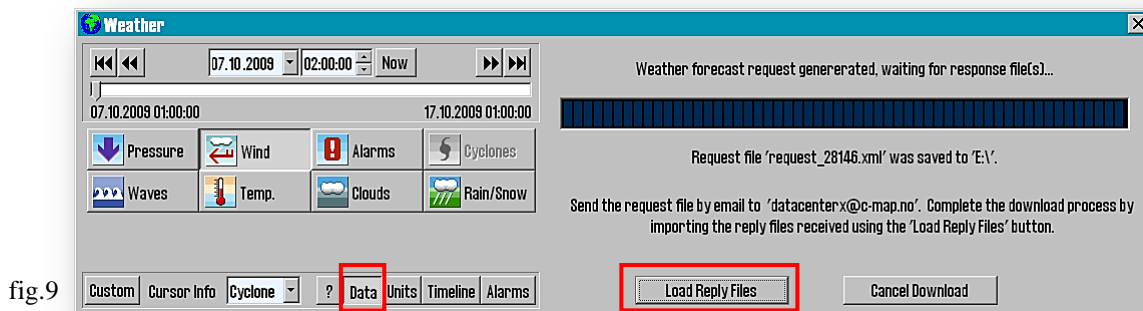

fig.9
5. The request file has been generated and a window is displaying the progress (fig.9). Send this file to datacenterx@c-map.no and wait until all responses are received. Note that the subject line of the response from **Jeppesen Marine (C-Map)** shows how many replies should be in total.
6. Note that the download window can be hidden by clicking on the "Data" button (fig.9), while waiting for the reply files. *Weather Overlays* window can be closed completely, or TECDIS can be stopped, without affecting the downloading process.
8. Save all the answer attachments (reply files), that have extension ".dat" or ".jwp" on USB memory stick. Insert the USB memory stick, containing the answers (reply files), into an available USB port in **TECDIS/TELchart ECS** system again and click "Load Reply Files" (fig.9)